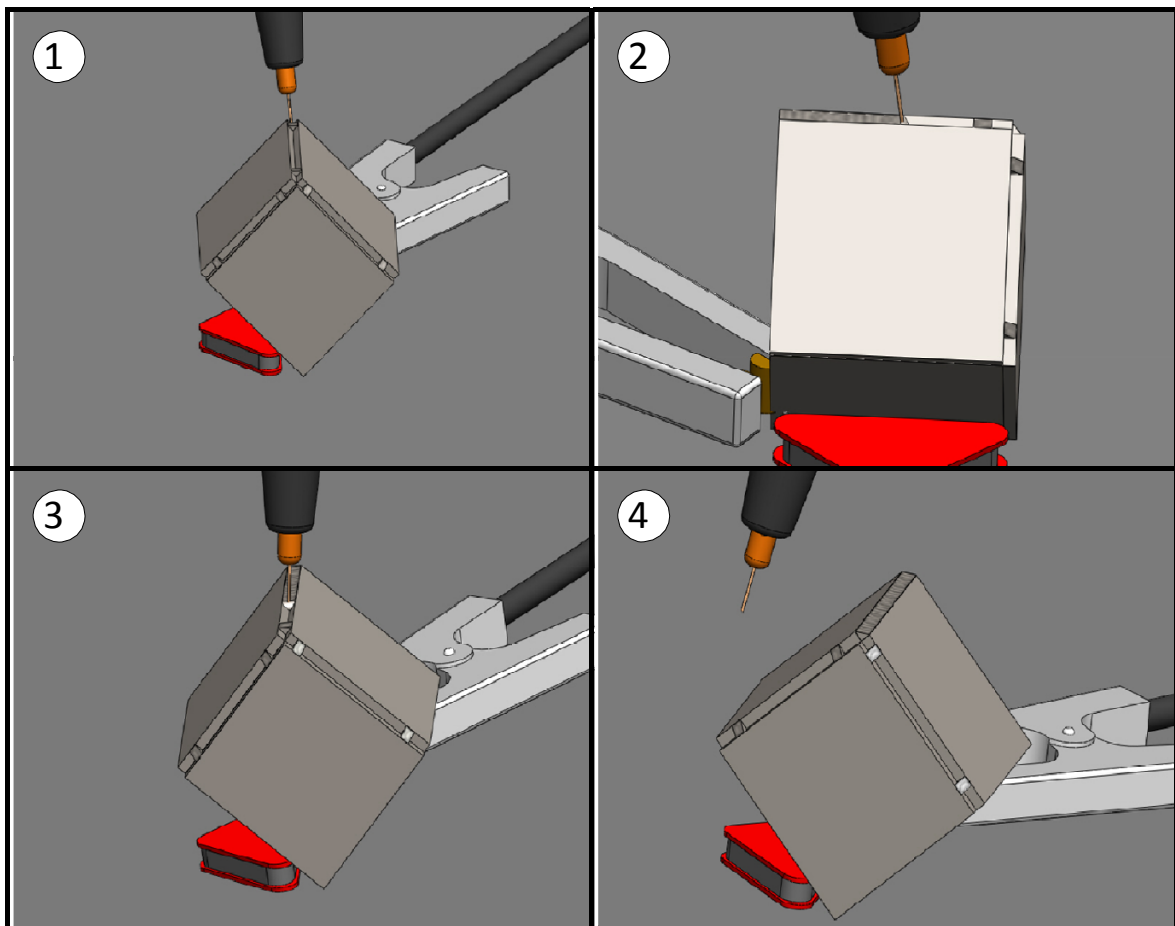

Figure 12: Grinding off burs- (1) Position the two L's together to make a box. (2) Have the magnet on the inside of the box.
A. Position the cube as shown in Figure 12(1) for the first weld.
- B. Weld the first weld. To do this, keep the gun at the correct distance from the weld and at the correct angle during the entire weld. Pull the trigger and slowly move the gun forward across the joint as shown in Figure 12(2-3). Be sure to weld all the way through the tack to the end of the 2" coupon. Once you hit the edge, let go of the trigger and the weld is complete.